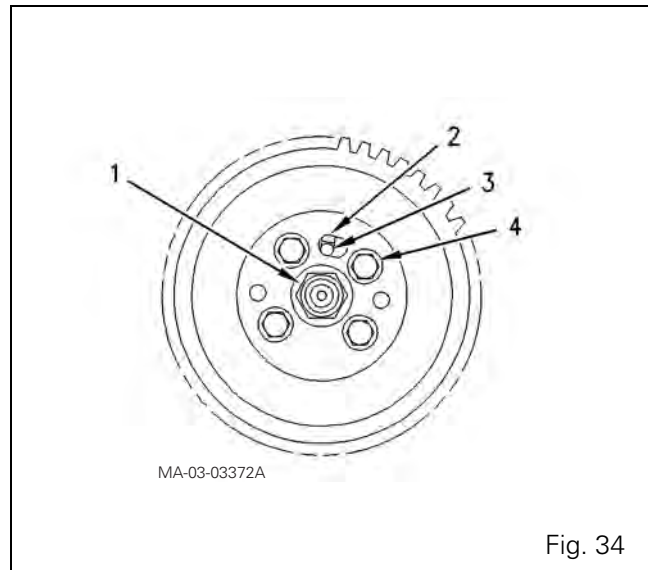

Fig. 34
177. Insert the timing pin ref. PD245 into the hole (3) (Fig. 34) of the injection pump gear and the hub slot (2). Push the timing pin fully into the hole (3) of the injection pump body. If the pin can be fully inserted, the injection pump timing is correct. There should be no resistance when the timing pin is inserted.
179. Take out the four screws (4) (Fig. 34) and the hardened washers. Remove the injection pump gear from the injection pump hub.